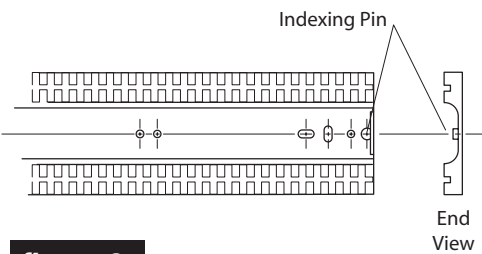

figure 3
- Position the slide channels into the molded rack using the indexing pin on the back of the molded rack through the 1/4" dia. hole on the rear of the slide channel (fig. 3).